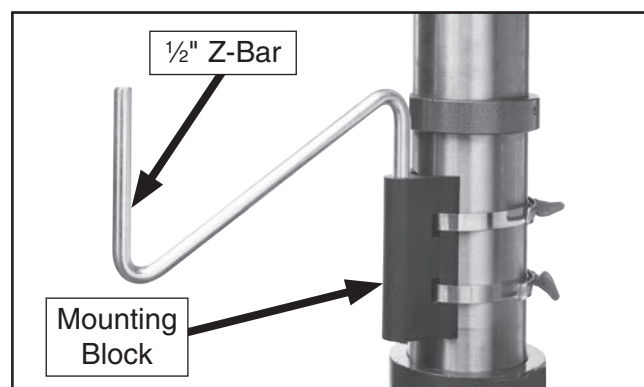

Figure 4. $\frac{1}{2}$ " Z-bar installed.
5. Mount $\frac{1}{2}$ " Z-bar into mounting block (see **Figure 4**).